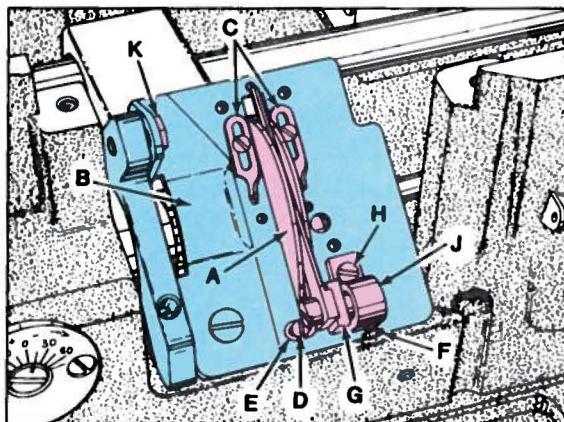

Fig. 21
Looper thread take-up (A, Fig. 21) should be centered, left to right, in cast-off plate (B). It should also be positioned so as the needle bar is descending, the looper thread is cast-off when the point of the needle is even with the bottom of the looper. Adjustment can be made by loosening two screws in take-up, through access hole in cast-off plate, reposition as required and retighten screws. Set adjustable eyelets (C)  $1/2$  inch (12.7mm) below centerline of their mounting screws.